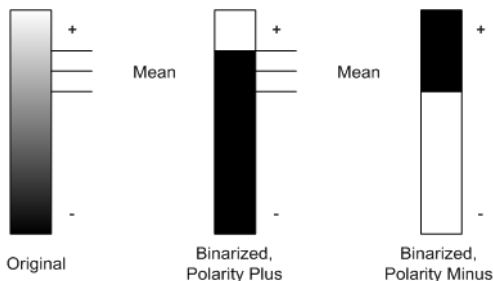

Figure 7-44 The Binarizer polarity
- b) If the **Dual** checkbox is unchecked and the **Polarity** (see Figure 7-44 on page 381) is set to *Minus* the Binarizer will sort the data based on the following threshold: